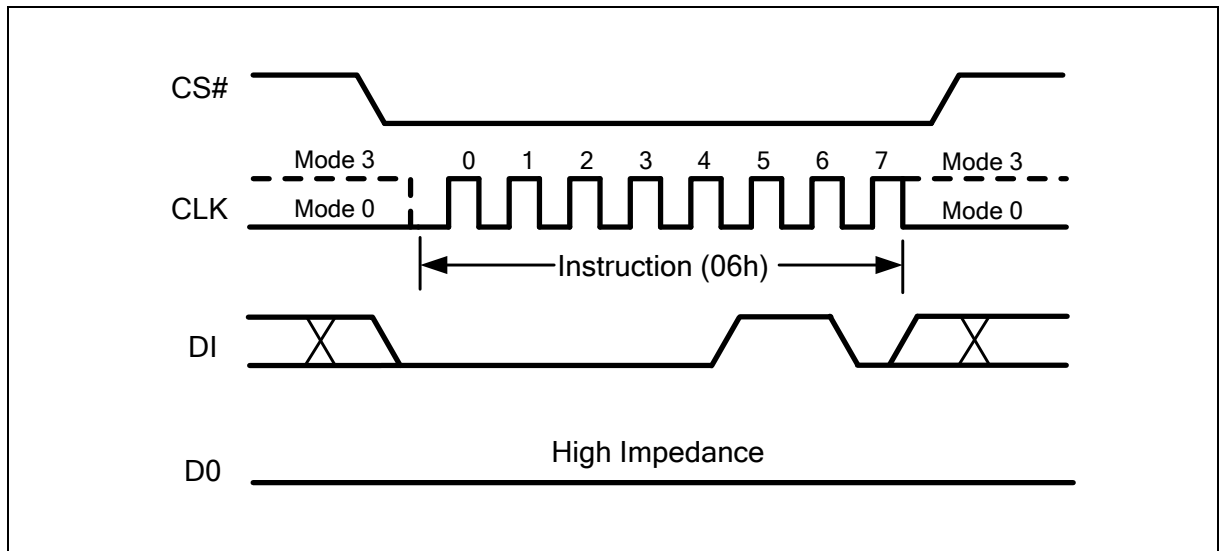
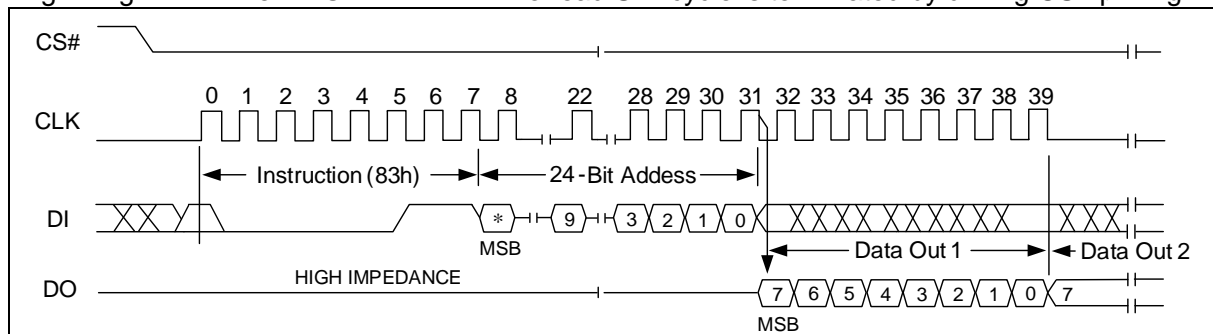

Figure 5 Write Enable Instruction
Figure 15 Read UID Number Sequence
Instructions vary in length from a single byte to several bytes and may be followed by address bytes, data bytes, and in some cases, a combination. Instructions are completed with the rising edge of edge CS#. Clock relative timing diagrams for each instruction are included in Figure 5 through Figure 15. All read instructions can be completed after any clocked bit. However, all instructions that Write must complete on a byte boundary (CS# driven high after a full 8-bits have been clocked) otherwise the instruction will be ignored. This feature further protects the device from inadvertent writes. Additionally, while the memory is being written, or when the Status Register is being written, all instructions except for Read Status Register will be ignored until the write cycle has completed.
The Write Enable (WREN) instruction (Figure 5) sets the Write Enable Latch (WEL) bit in the Status Register to a 1. The WEL bit must be set prior to every Write and Write Status Register instruction. The Write Enable (WREN) instruction is entered by driving CS# low, shifting the instruction code "06h" into the Data Input (DI) pin on the rising edge of CLK, and then driving CS# high.
The Read Unique ID Number instruction accesses a factory-set read-only 128-bit number that is unique to each FM25NM02A device. The ID number can be used in conjunction with user software methods to help prevent copying or cloning of a system. The Read Unique ID instruction is initiated by driving the CS# pin low and shifting the instruction code "83h" followed by a 24-bit address A23-A0 into the DI pin. Address bit A9 must be '1b', upper address bits are don't care, the lower address bits [A3:A0] define the byte address inside the UID. After which, the 128-bit ID is shifted out on the falling edge of CLK as shown in Figure 15. When the end of the 128-bit UID number is reached (16 bytes of data), the data word address will roll-over back to the beginning of the 128-bit UID number. The read UID cycle is terminated by driving CS# pin high.